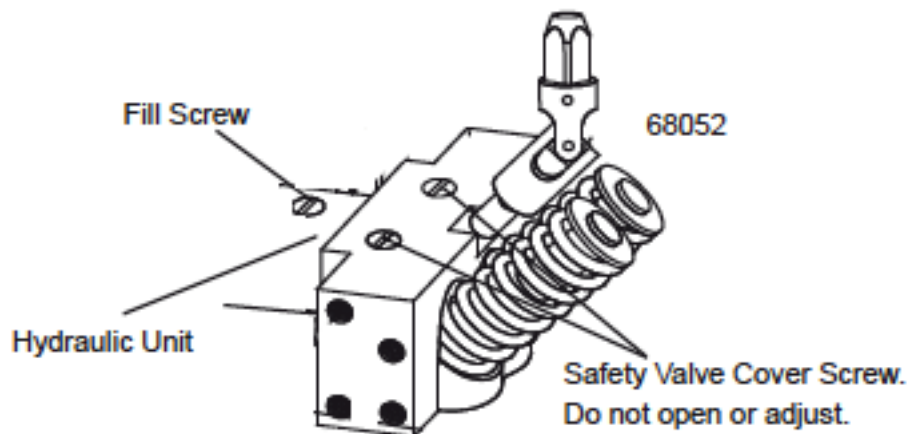

Fig. 1
3. Carefully position the Saddle of the Jack (Fig. 1) under the vehicle manufacturer's recommended lifting point. (See vehicle manufacturer's owner's manual for location of frame lifting point when lifting only one wheel and frame lifting points when lifting the entire front or rear end of the vehicle.)
1. Remove Fill Screw and Screw simultaneously (Fig.1).
1. Loosen the Fill Screw (Fig. 1).
4. Tighten the Fill Screw (Fig. 1).